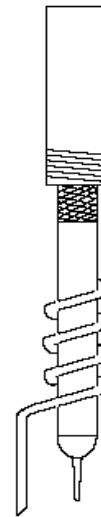

Figure 5: Balanced Impedance Scope Probe for Noise Measurements
9. The EN5322 will be enabled. The POK output can be observed at TP9. To observe noise-sensitive waveforms on input / output ripple and NC(SW), use the measurement technique as shown in Figure 5. Wrap bus wire around the GND portion of the bare probe and bring it close to the probe tip. Then solder the bus wire to the nearest GND on the board.